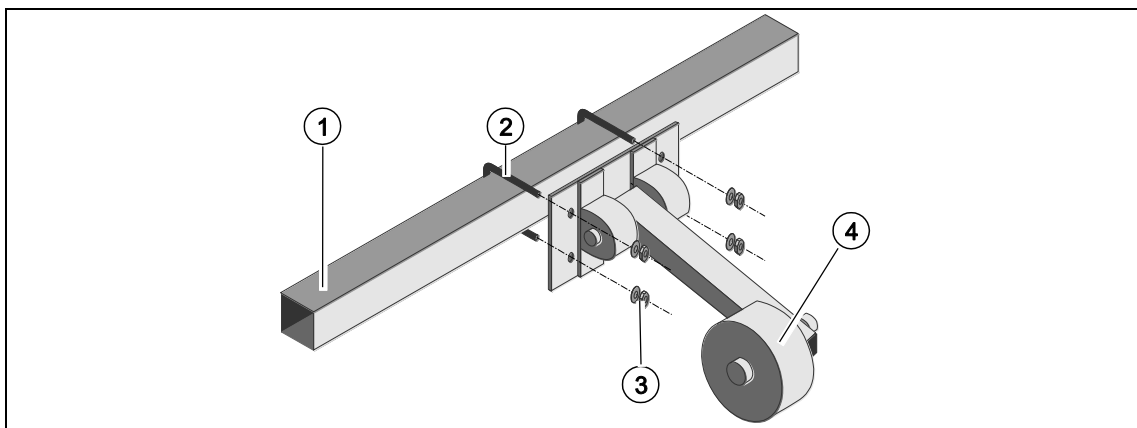

Fig. 10: Connect the speed adjustment wheel (optional)
1. Mount the speed measuring wheel (4) with bracket clip (2) on the weighing frame (1), (see Fig. 10, p 24).
2. Connect the speed measuring wheel (4) according to wiring diagrams (see chapter 12.2, p. 28)